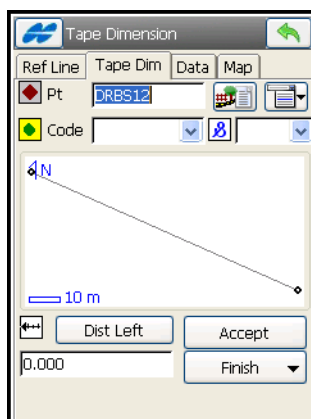

Figure 8-32. Tape Dimension – Tape Dim Tab
3. On the *Tape Dim* tab, set the parameters for performing the survey: the name and code of the surveyed point, and the direction (left or right of the previous line) and the distance of the movement from the previous point (Figure 8-32).
- To connect the first and the last point with a line, tap **Finish** and select the *Close Polygon* item from the drop-down menu (Figure 8-32 on page 8-34).
- To calculate the difference between the last and the first point, tap **Finish**, then select the *Calc Closure* item from the menu (Figure 8-32 on page 8-34).